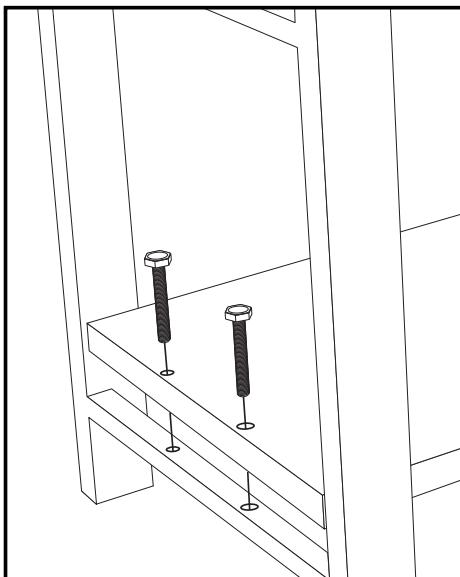

Figure 5
6. Place the workbench in its upright position and assemble the shelf (#7) to the workbench. Thread M6 washer (#3) onto M6*45 bolt (#10) and thread through shelf into the leg beams (#6) on each side. (see figure 5)